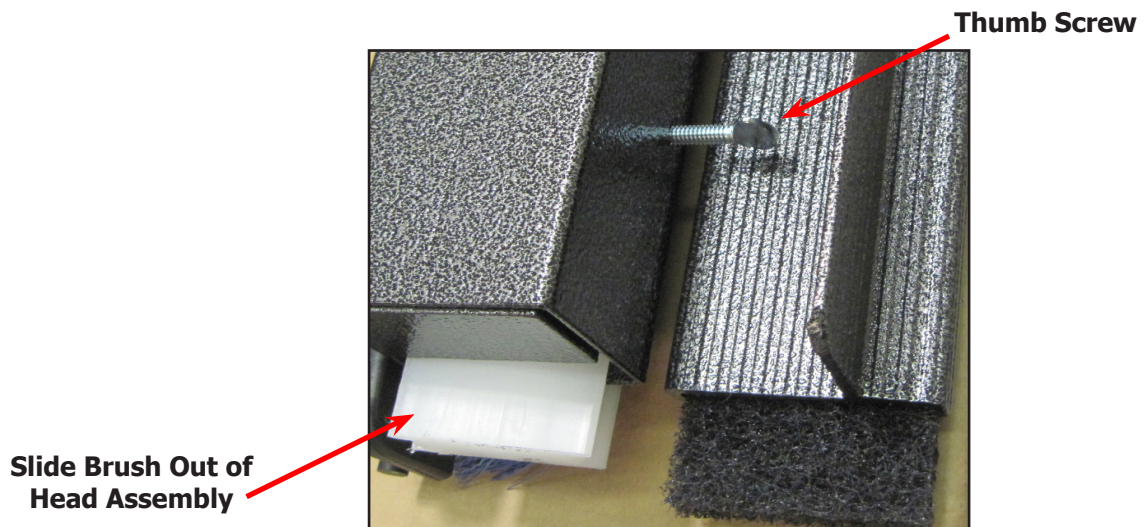

Figure 7. Loosen Thumb Screw and Slide Brush Out of Head Assembly
2. Loosen the thumb screw on the head assembly (see Figure 7).